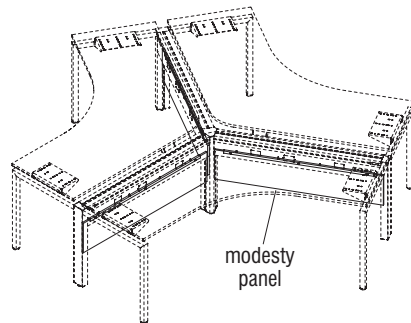

Figure 12
- Modesty panels are specified to match the beam length when used in three-worksurface clusters having end workspace support legs (Figures 12 & 13).